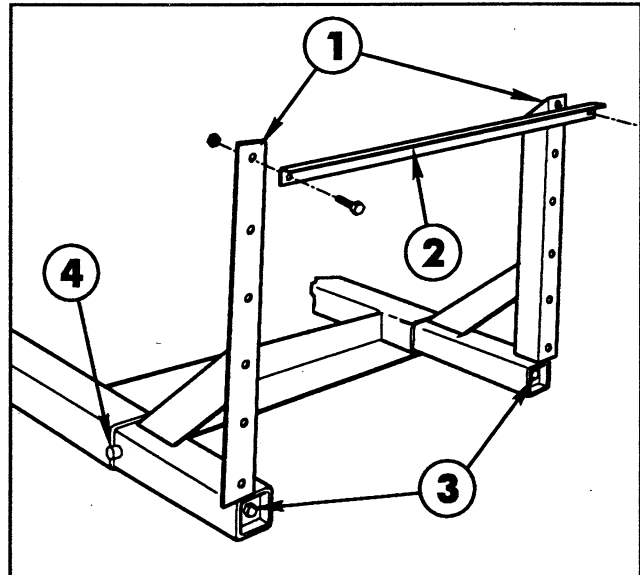

FIG. 10
1. Apply a heavy coating of grease to the tubes of the two Boom Mount Assemblies and insert them into the Vehicle frame as shown in FIG 10.